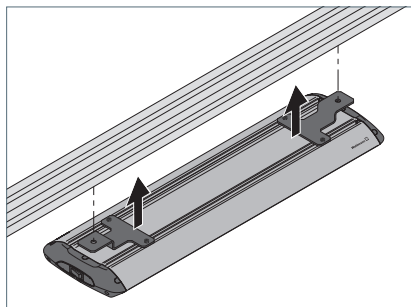
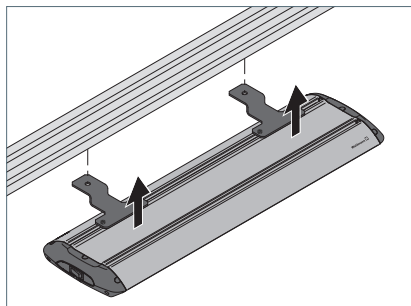

Fig. 8: Mounting the luminaire of mounting type "Top, fixed," 1st option.
Fig. 9: Mounting the luminaire of mounting type "Top, fixed," 2nd option.
- Mount the luminaire on the mounting surface using suitable screws and tighten the screws, see Fig. 8 or see Fig. 9.